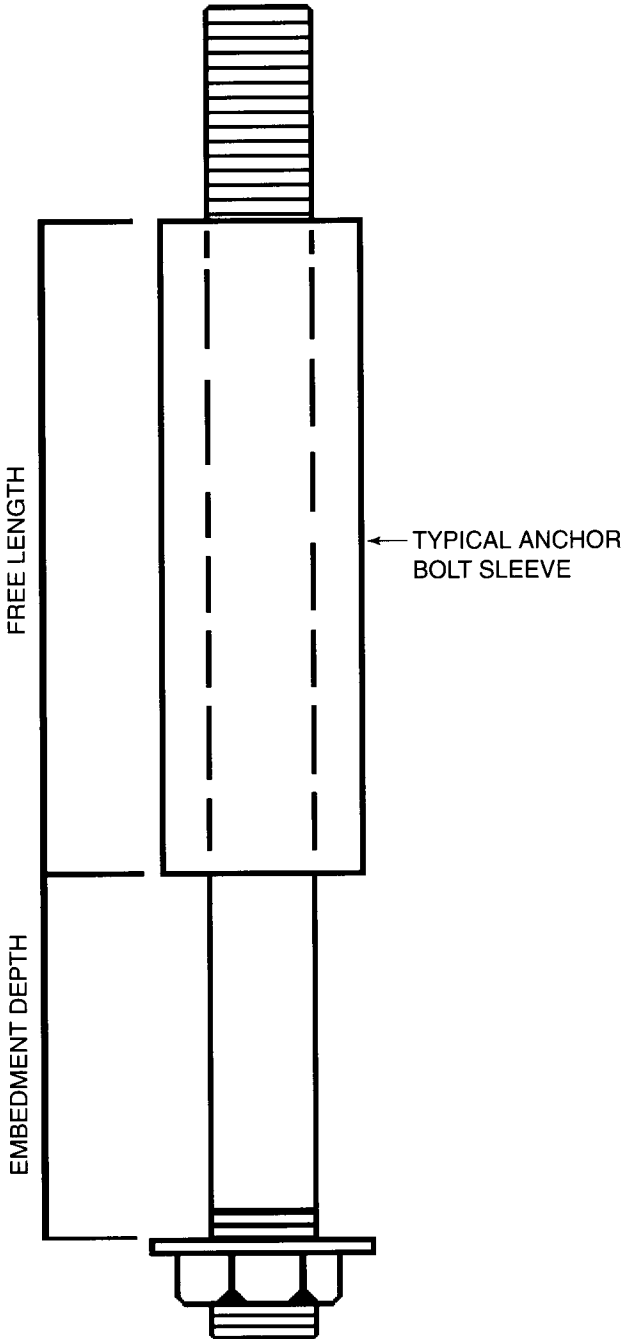

Figure 2-3. Minimum free stretch and bolt embedment.
- The amount of available *free stretch length* for the anchor bolt (the area of the bolt that is not encapsulated by the concrete, as shown in Figure 2-3). It is usually a *minimum* of 12 times the bolt diameter. More available bolt length for stretch is better.